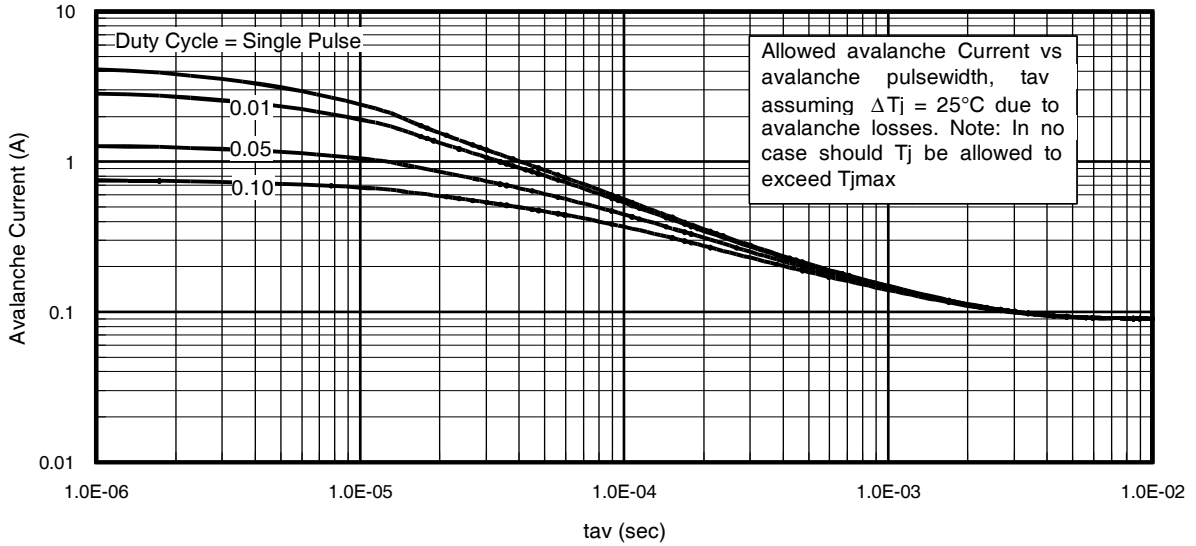

Fig 15. Typical Avalanche Current Vs.Pulsewidth
**Notes on Repetitive Avalanche Curves , Figures 15, 16: (For further info, see AN-1005 at www.irf.com)**
7.  $\Delta T$  = Allowable rise in junction temperature, not to exceed  $T_{jmax}$  (assumed as 25°C in Figure 15, 16).